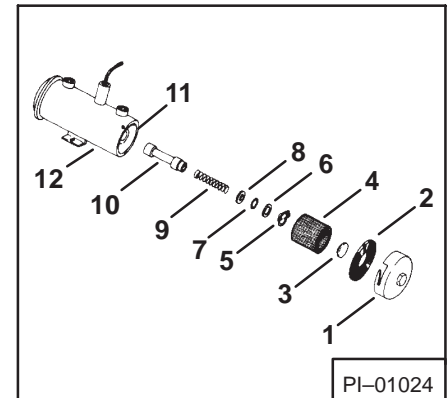

Fig. 124 Electric Fuel Pump
1. With a 0.625 inch wrench, release the bottom cover (Fig. 124, Item 1) from the bayonet fittings. Twist the cover by hand to remove it from the pump body.